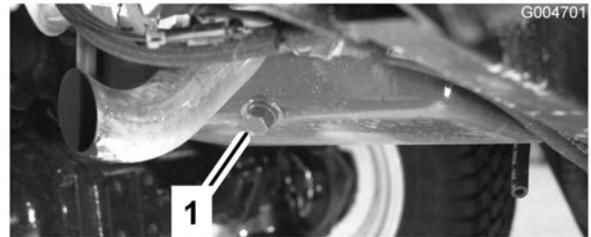

Figure 49
1. Remove either drain plug (Figure 49) and let the oil flow into a drain pan. When the oil stops, install the drain plug.